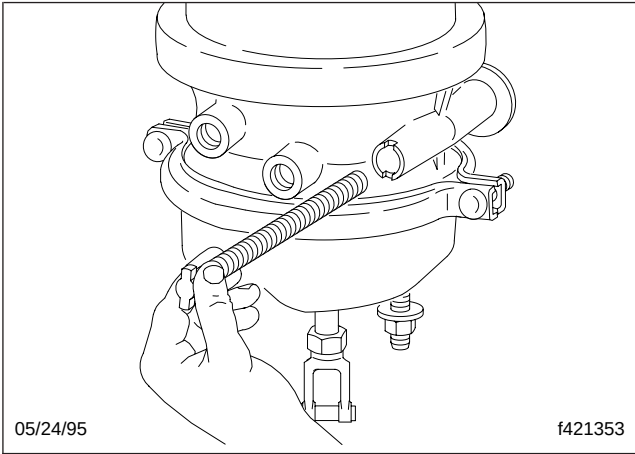

Fig. 3, Removing the Release Bolt
3. Using a hand wrench (*don't use an impact wrench*), unscrew the release nut, and remove the nut, flatwasher, and release bolt from the storage pocket on the side of the chamber. See Fig. 3.